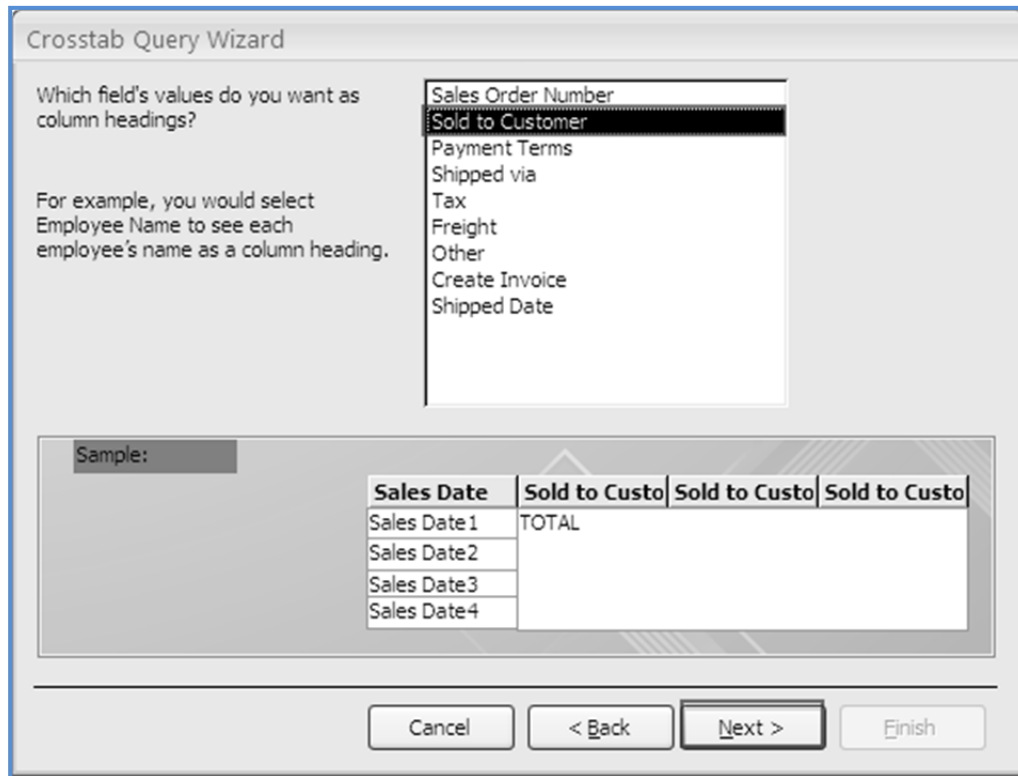

Fig. 1.2.43: Select column Sold to Customer for Column Heading
5. Select the column to be taken as Column Heading in the next window of the *Query Wizard* that appears. In this window, select the column *Sold to Customer* as shown in Fig. 1.2.43 and click **Next**.